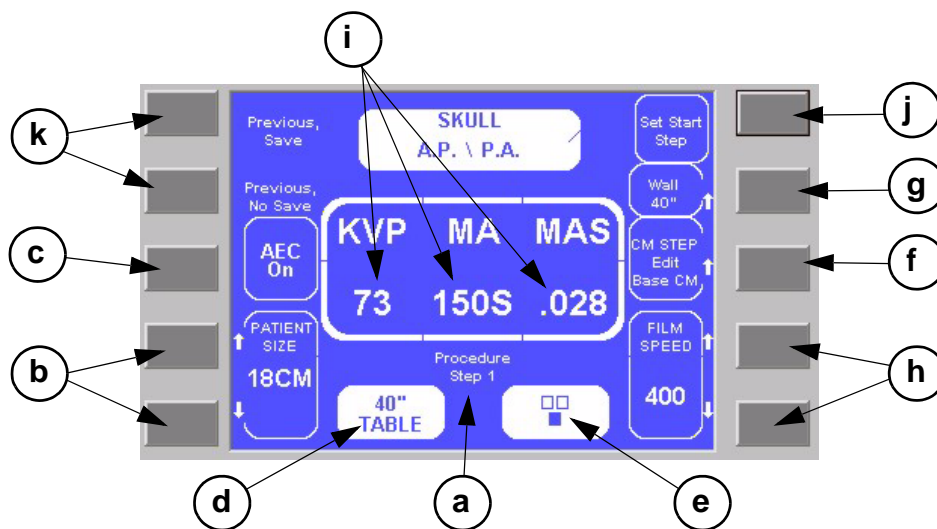

Figure 4-7. APR Procedure Value Screen
2. The APR Region (or View) Name Edit screen allows you to edit the name of the selected Region (or View) Name as it appears on the APR screen or, if no existing Region (or View) Name has been created, it allows one to be created. The text string being modified (if one exists) appears in the center display box as shown in Figure 4-7. Names of regions or Views are limited to 49 characters. The APR Region (or View) Name Edit screen provides three ways to edit text:
- d. Press the key adjacent to the **View Name** field. The APR Region (or View) Name Edit screen appears (see Figure 4-7) with the View name displayed in the center display box. The method for editing the View name is the same as for editing a Region name as described previously in the "Editing a Region Name" procedure.